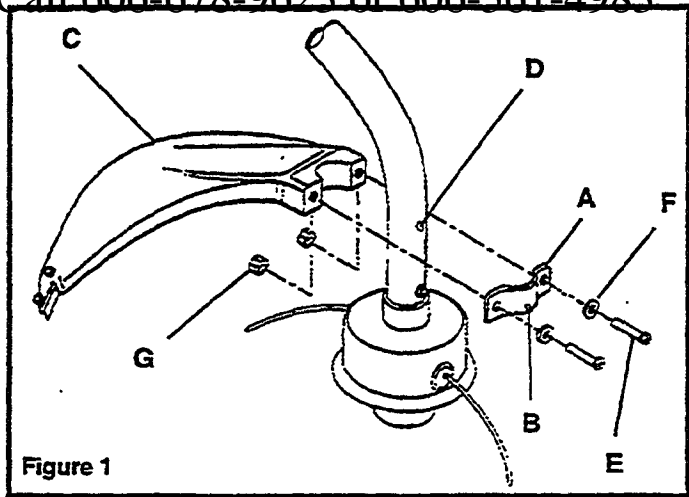

Figure 1
- Assemble bracket clamp (A), with alignment tab (B) facing down, and deflector (C) over driveshaft housing locator hole (D). Install screws (E), washers (F), and nuts (G). Tighten securely. (Figure 1)